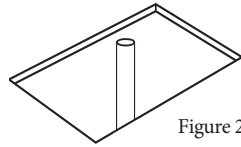

Figure 2
3. Determine the location of the drain pipe, and air line (on units with Airbath Systems) on the floor by taking measurements of the drain and waste location underneath the unit (Figure 2).